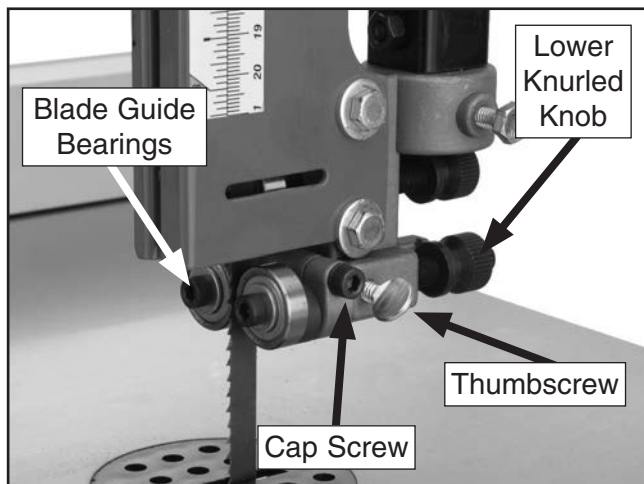

Figure 34. Blade guide controls.
3. Familiarize yourself with the blade guide controls shown in **Figure 34**.